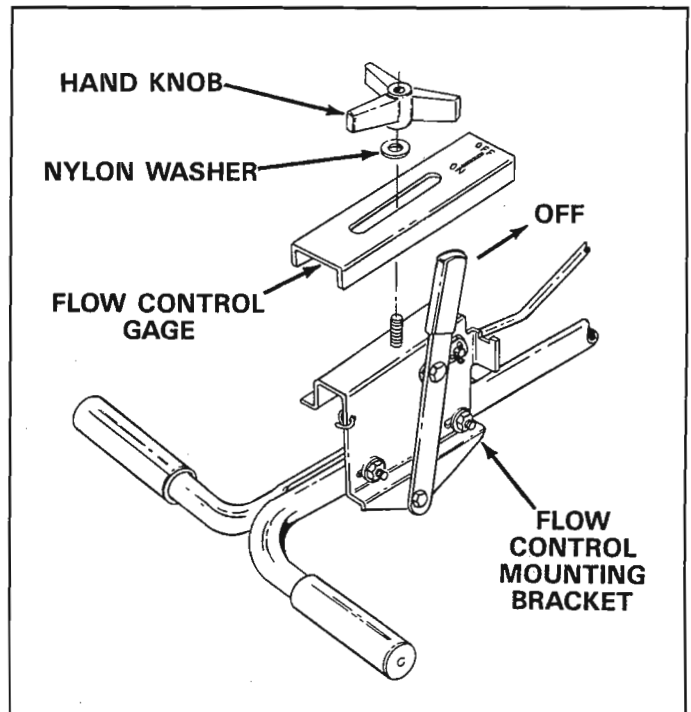

FIGURE 15
- Assemble the flow control gage onto the flow control mounting bracket as shown in figure 15. Secure with nylon washer and hand knob.
- Move flow control arm to off position and push flow control mounting bracket toward hopper until closure plate (located in bottom of hopper) is completely closed. Tighten 1/4" hex lock nuts assembled in step 21. See figure 15.